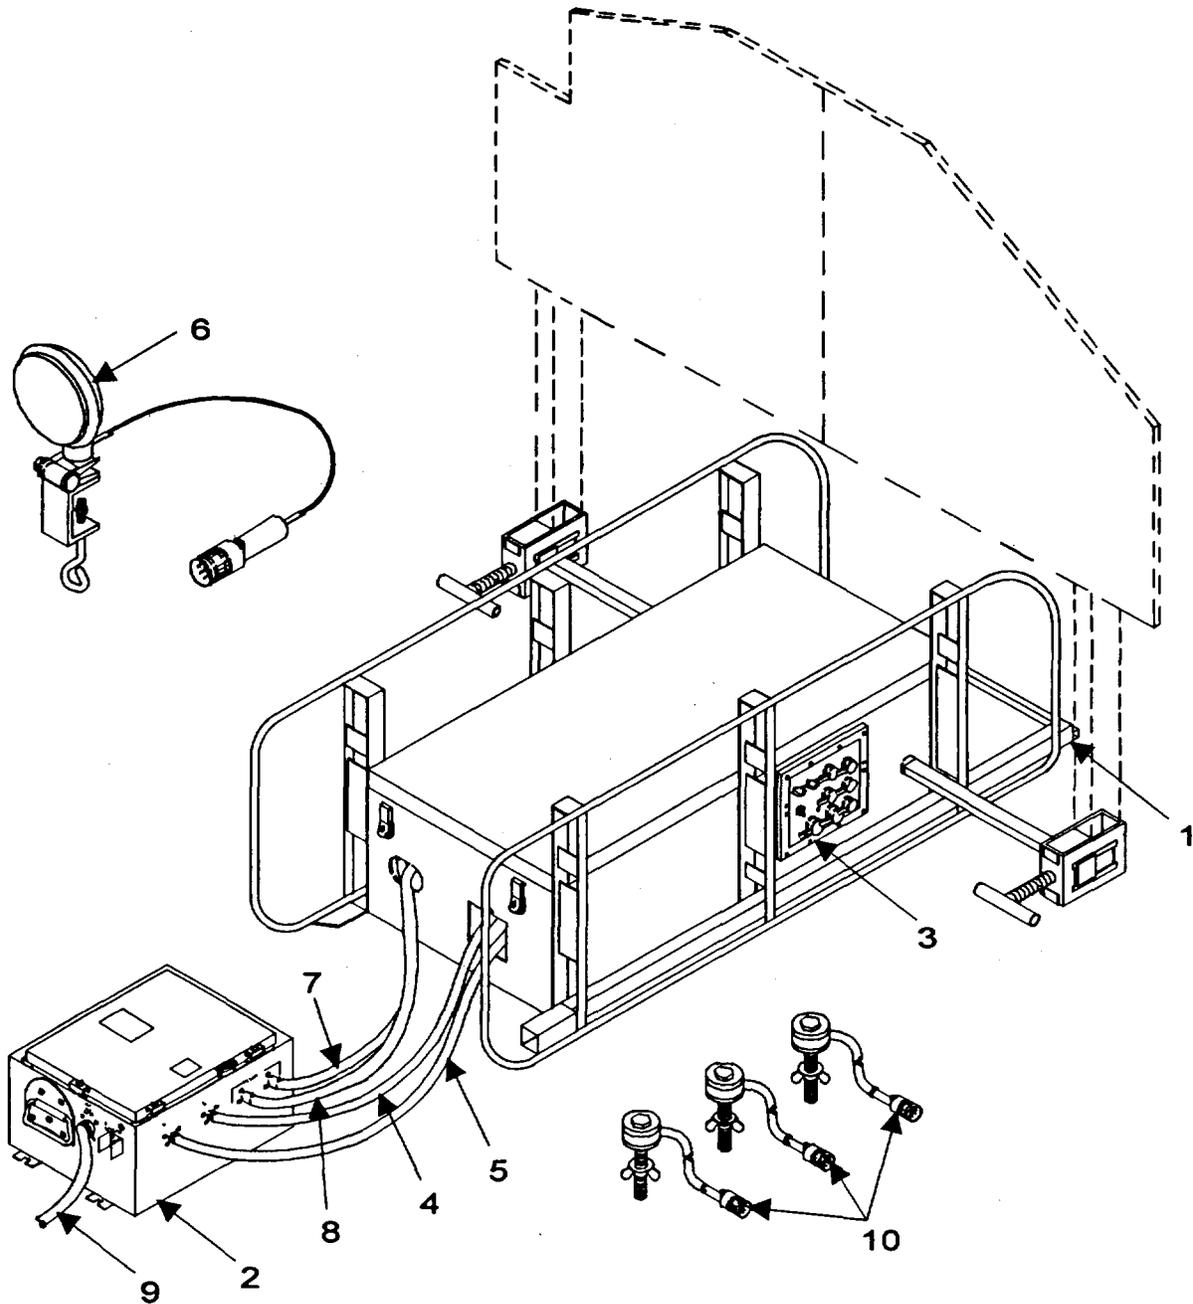

Figure 2-7. Preparation for Use of the Computer-Controlled THM/TG with Battery Eliminator.
- (11) Position armor target kill simulator in protected area. Clear brush and other flammable material away from ATKS. Connect the simulator to SMOKE SCORER or HOSTILE FIRE connector on control assembly. Connection to the SMOKE SCORER connector activates the ATKS when target is hit and goes down. Connection to the HOSTILE FIRE connector activates the ATKS when programmed in the scenario or commanded to do so by the radio controlled transmitter. Connection to the TIU causes the ATKS to respond to the function of the connector that the TIU is connected to on the control assembly.
c. **Assembly and Preparation of Computer-Controlled THMITG with Battery Eliminator.** To assemble and prepare the computer-controlled THM/TG with battery eliminator for operation, refer to figure 2-7 and FO-3 and perform the following steps:
- (1) Extend the stabilizer assembly (1).
- (2) Position the battery eliminator (2) near the tank target assembly in a protected area on bunker pad.
- (3) Remove access door. Disconnect proximity switch cable P3 from control assembly (3) and connect it to P4 of cable W107 from the target interface unit (TIU). Connect P2 of cable W107 to P3 on the control assembly. Connect P3 of cable W107 to the SMOKE SCORER/HOSTILE FIRE connector on the front of control assembly. If P3 is connected to the SMOKE SCORER connector and the ATKS is connected to the TIU, the ATKS will activate when the target is hit. If P3 is connected to the HOSTILE FIRE connector and the ATKS is connected to the TIU, the ATKS will activate when programmed in the scenario or commanded to do so by the radio controlled transmitter.